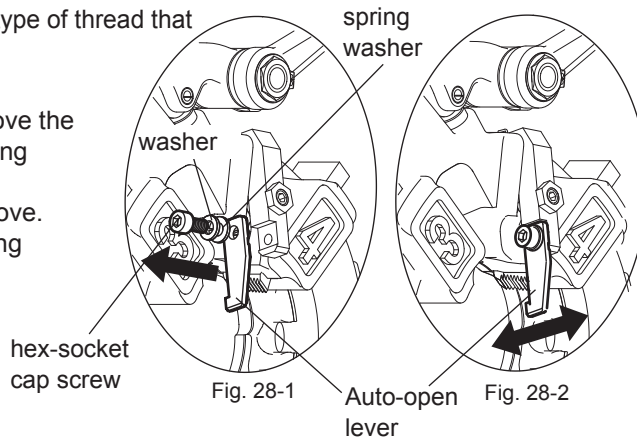

Fig. 28-1
1. Removing the auto-open lever. (Fig. 28-1)